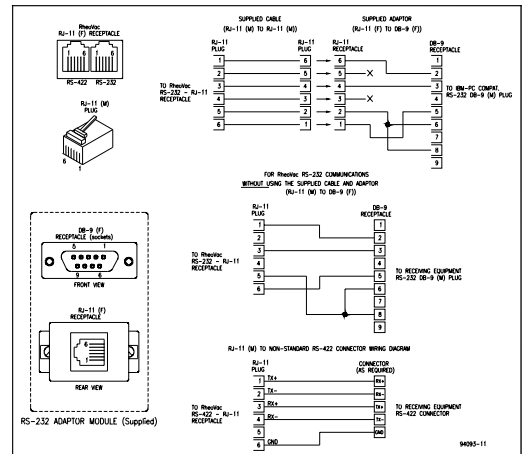

Figure 6 Serial Communication Interface
4. **Serial Communication:** Connector JP3 on the CPU interface PWA (printed wiring board #08017-1) is the RS-232 serial communication interface. This interface should only be used for distances of 20 feet or less, such as to a laptop computer. A 20-foot serial cable with a DB-9 connector is available from Intek upon request (see Figure 6 and Table I). An RS-422 serial communication interface is present for long data communications when configured without 4-20 mA outputs. *Note: Intek recommends using the network connection for all data transmissions and RheoVac communications.*